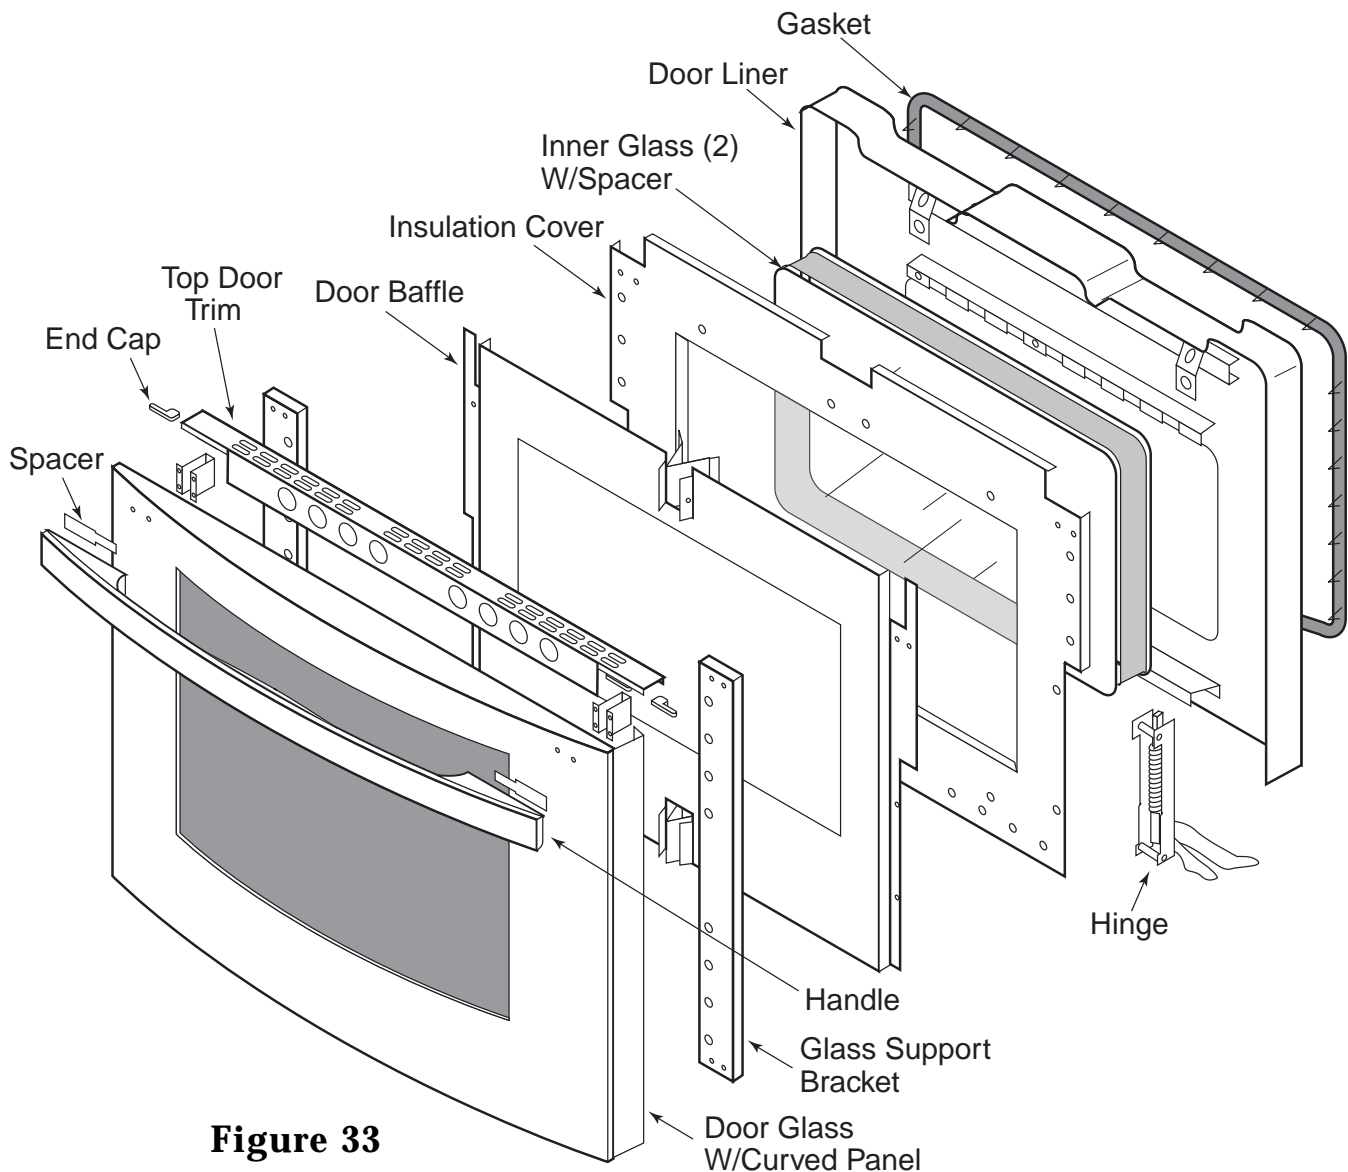

Figure 33
2. Refer to Figure 33 as you remove the door components. The illustration shows the order of removal.